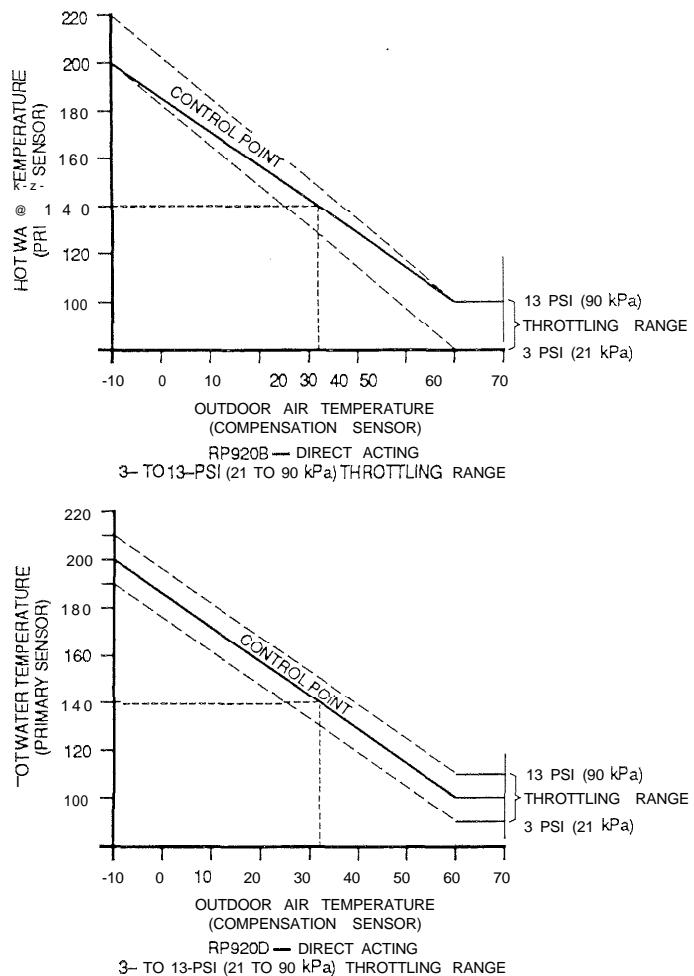

Fig. 4. RP920B and D Reset Schedule,
- Convert the reset schedule value to pressure (See APPENDIX A) and adjust the air supplies to those pressures. For an RP920D, the BLP should be 8 psi (55 kPa). For an RP920B, the expected BLP depends on which point on the reset schedule is being simulated. If BLP is not within 1 psi of the control point pressure, go to Step 10. Exact control point pressure can be established for each application by constructing a chart similar to that shown in Figure 4 and referencing APPENDIX A. If it is not correct, go to Step 10.
Select (Fig. 4) any compensation sensor value (outdoor temperature) within the compensation range, in this case 32F. Construct a line vertically to the control point line and then horizontally to the left side. The hot water temperature must be 140F to meet the reset schedule.